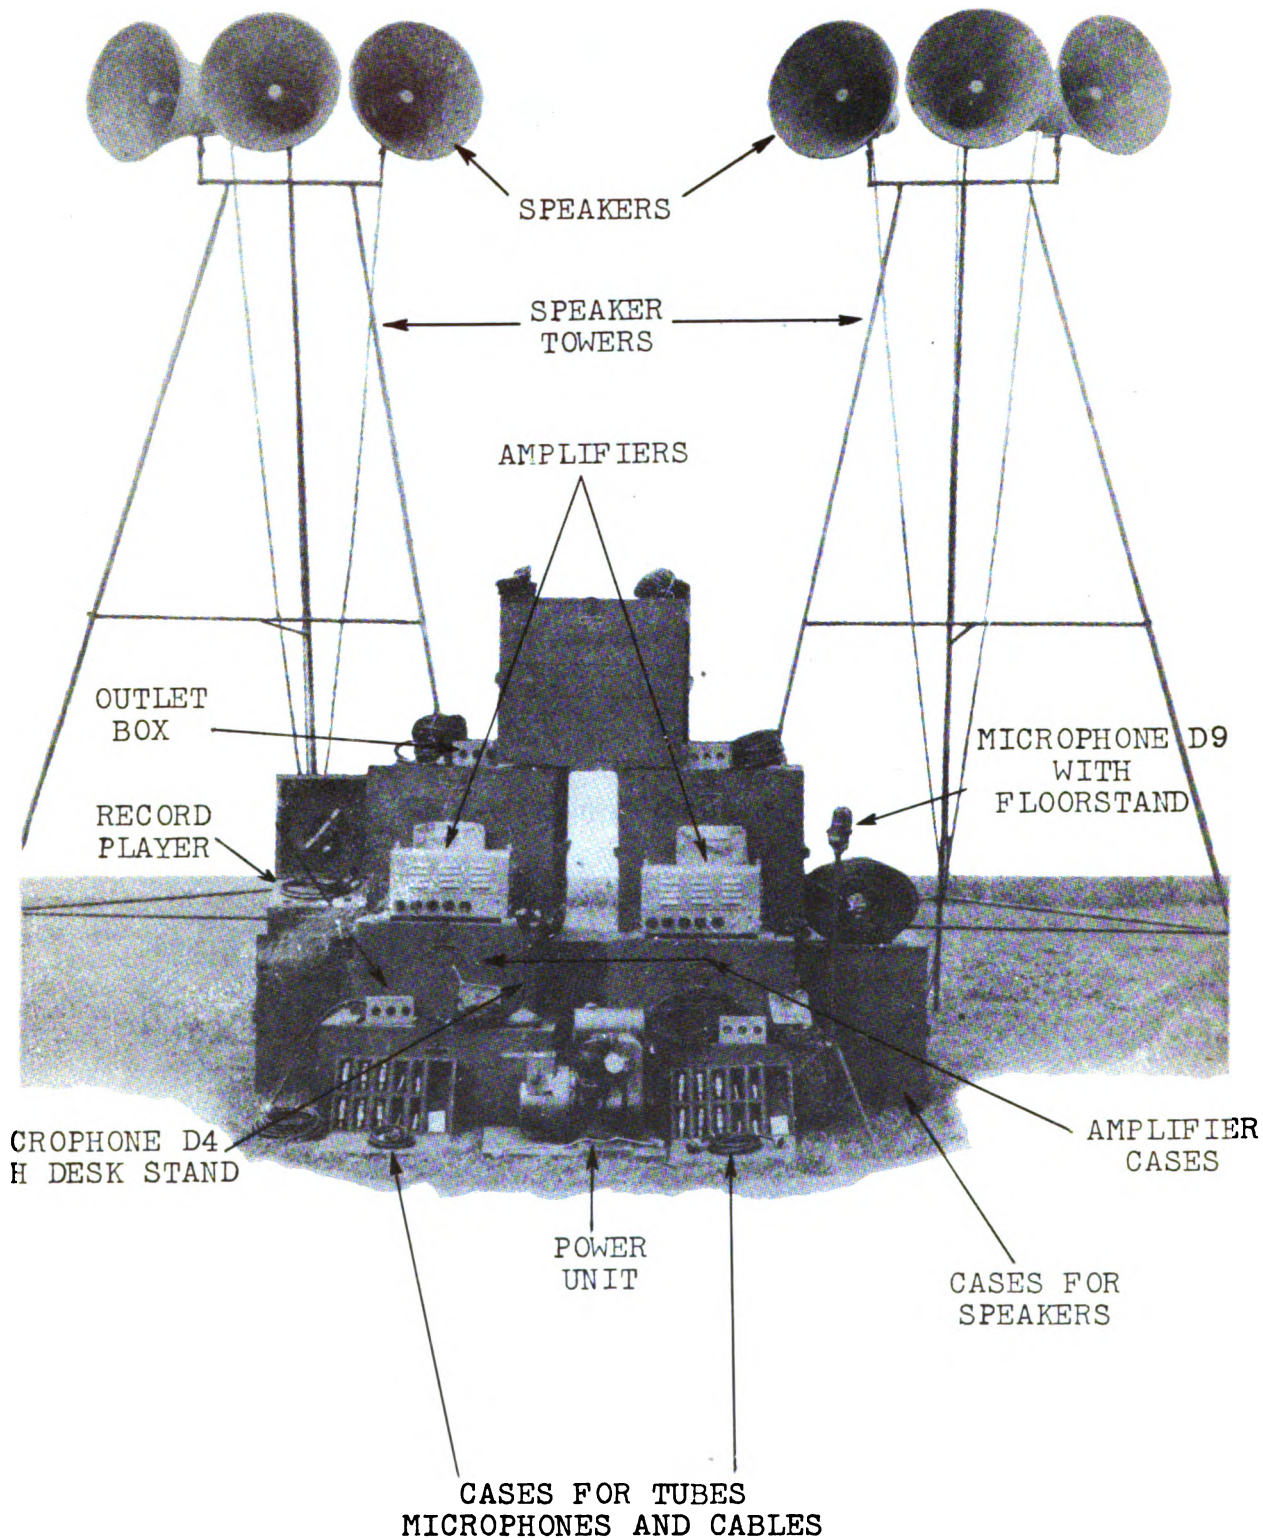

Figure 1. Public Address Set PA-1-F, components.
**a. General.** The purpose of Public Address Set PA-1-F is to amplify voice or music and project it over a large area. It consists of two 50-watt amplifiers, each one driving three high-intensity permanent-magnet loud speakers (fig. 1). Each amplifier, housed in a gray metal chassis and having inputs for microphone, record player, and radio, is designed to operate as a single unit or in parallel with the other. Such a parallel arrangement produces 100-watt power, sufficient for covering an area of 80,000 square feet outdoors, with good natural speech and smooth musical reproduction up to 3,000 feet from the speakers. Public Address Set PA-1-F is equipped with two types of microphones, an adjustable-speed record player, six loud speakers, two speaker towers, and a power plant driven by a gasoline engine. Public Address Set PA-1-F is equipped with a high-impedance input marked RADIO. A tuner can be fed into this input.